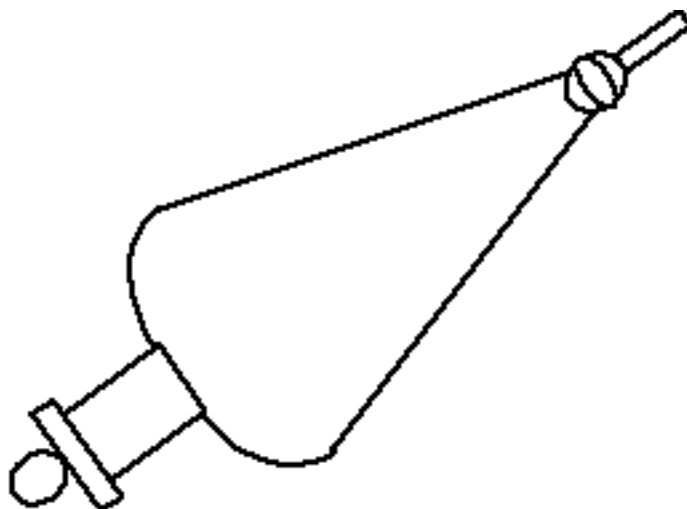

Figure 3. Correct orientation for venting of separatory funnel.
2. Add 75 mL of hexane to the separatory funnel, stopper the funnel, and shake the solutions 3-5 times. Invert the funnel $\sim 45^\circ$, and open the valve to vent the separatory funnel (see Figure 3 below). **BE CAREFUL THAT YOU DO NOT POINT THE FUNNEL AT YOURSELF OR ANOTHER STUDENT!!**